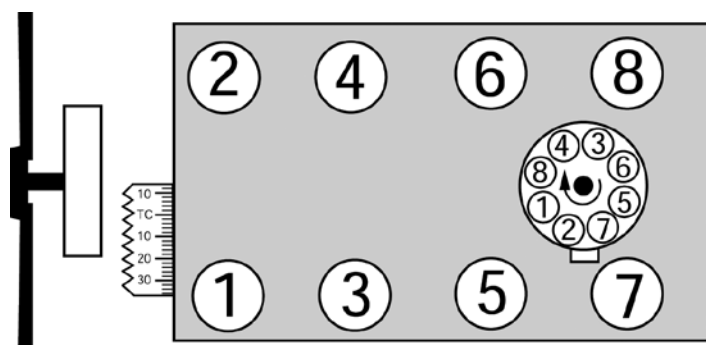

Figure 1 - 396-454 C.I.D. Chevrolet V8
10. Remove distributor cap and wires, rotate engine until rotor points towards number 1 terminal in cap and pointer on front cover is on top dead center (TDC) and remove distributor (**See Fig. 1**). Make a note of the approximate position of the distributor housing in relation to the manifold to assist in getting the distributor properly located during re-installation.
- A. Turn the engine over in direction of rotation until the No. 1 intake valve closes and continue until the pointer on the front cover is approximately five degrees (5°) before top dead center (BTDC) **(See Fig. 1 for firing order)**.